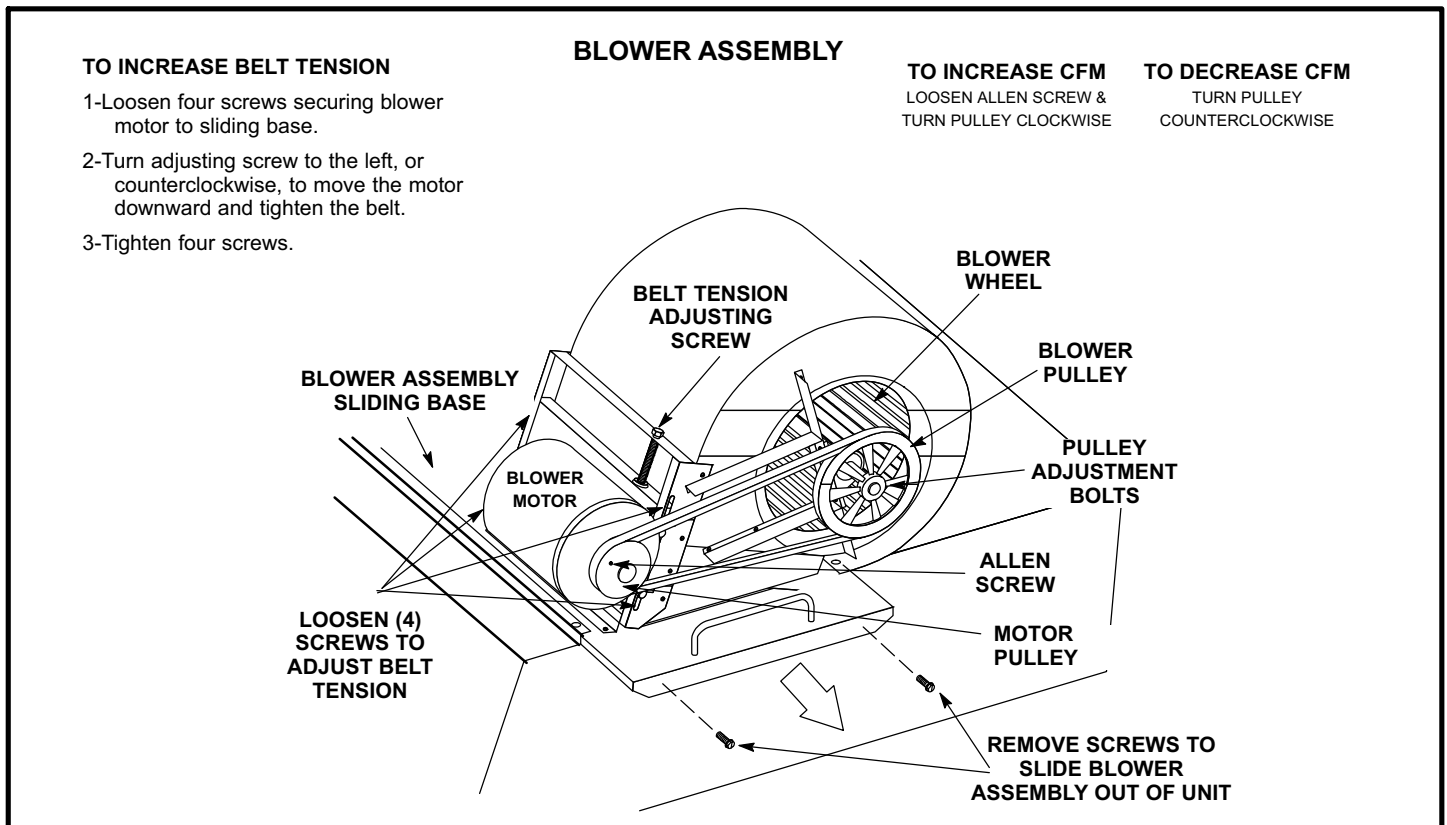

FIGURE 6
- 2- Remove screws on either side of blower assembly sliding base. See figure 6.
- 4- The blower RPM can be adjusted at the motor pulley. Loosen Allen screw and turn adjustable pulley clockwise to increase CFM. Turn counterclockwise to decrease CFM. See figure 6. Do not exceed minimum and maximum number of pulley turns as shown in table 2.
- 1- Loosen four screws securing blower motor to sliding base. See figure 6.